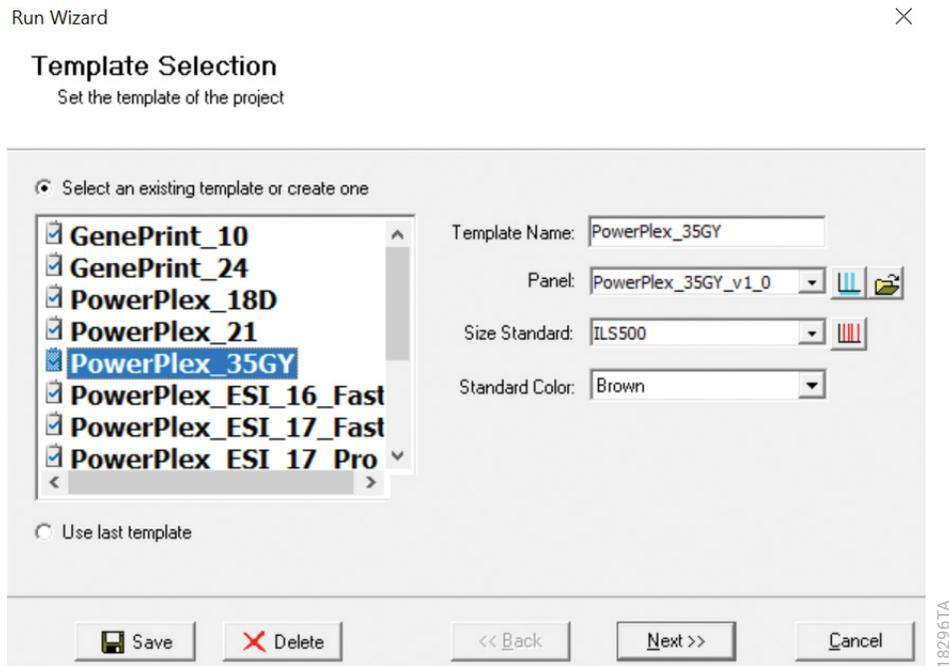

Figure 19. The 'Template Selection' window.
8. Click on **Run** in the Magic Wizard or click the **Run Project** icon (green arrow) in the toolbar. The 'Template Selection' screen will appear (Figure 19). Select the PowerPlex_35GY template and the settings shown in Figure 19. Verify that the panel that you created in Step 6 and 7 is selected in the panel drop-down field. The Size Standard must be ILS500 and the Standard Color must be Brown. Select **Next**.